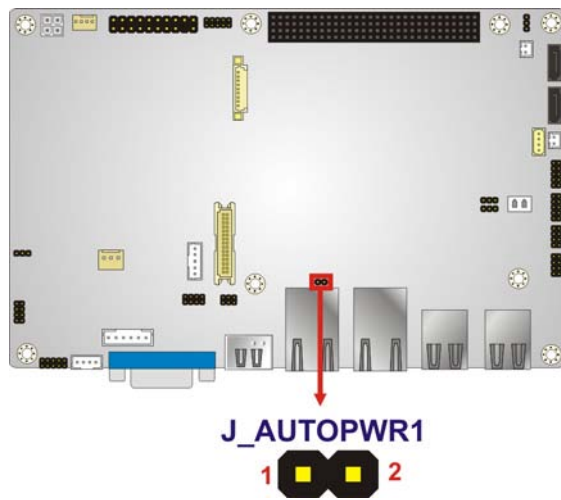

Figure 4-7: AT Auto Button Select Jumper Settings
- Jumper Location: See **Figure 4-7**
The location of the AT/ATX Power Select jumper is shown in **Figure 4-7** below.